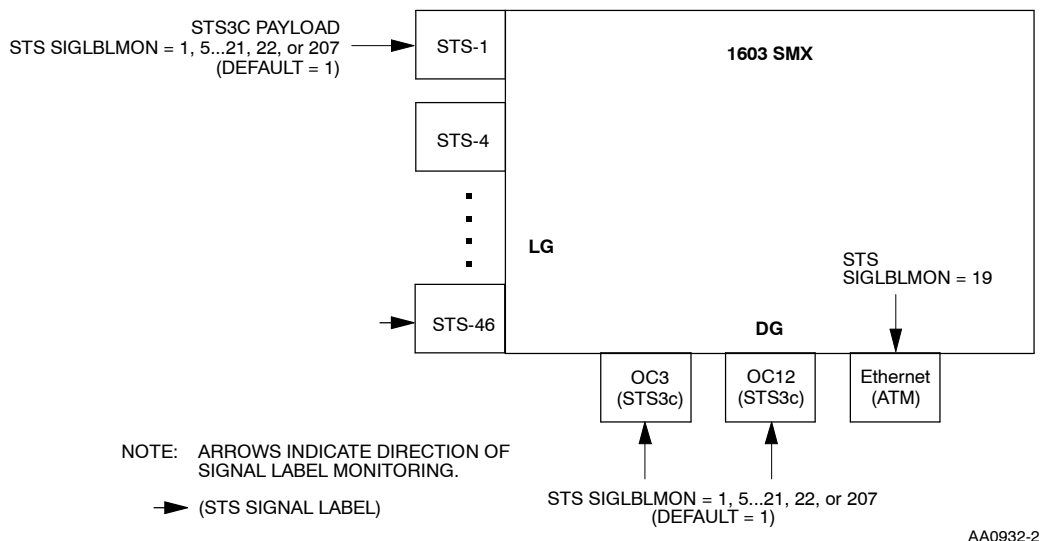

Figure 2. Signal Label Monitoring – STS3c (C2 Byte)
- 139** See Figure 2 for STS3c signal label monitoring points in the 1603 SMX NE.